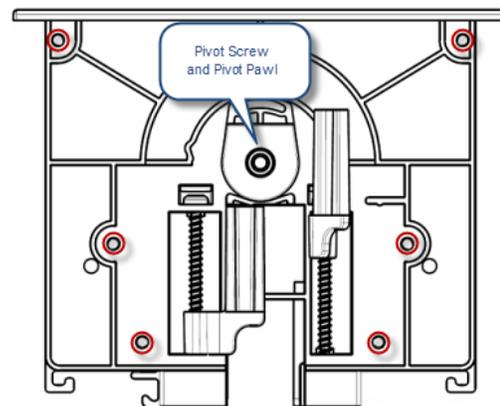

FIG. 4 HYDRAPORT BASE ASSEMBLY (SHOWN MOUNTED) - MOUNTING/PIVOT SCREW LOCATIONS
1. Remove the (silver) pivot screw and pivot pawl assembly in the center of the End Cap (FIG. 4).
3. Secure the End Cap with the six (black) sheet metal screws (removed in Step 2 - 2; see FIG. 4).
4. Replace the (silver) pivot screw and pivot pawl assembly (removed in Step 2 - 1, see FIG. 4) in the center of the End Cap.